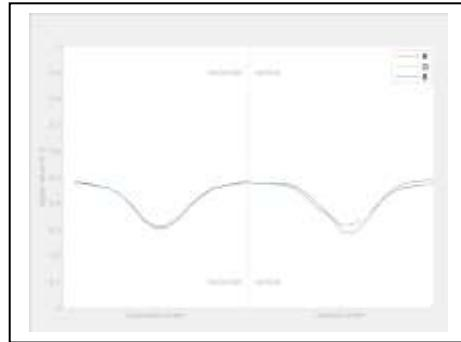

Figure 79. Results Plot Showing Example of Insufficient Camera Focus
34. If the display appears like Figure 79 below, there is insufficient focus. Refocus the camera using the “Eye Chart” (see Section 6.2 *Camera Focus Procedure*) and perform steps 2-33 above.